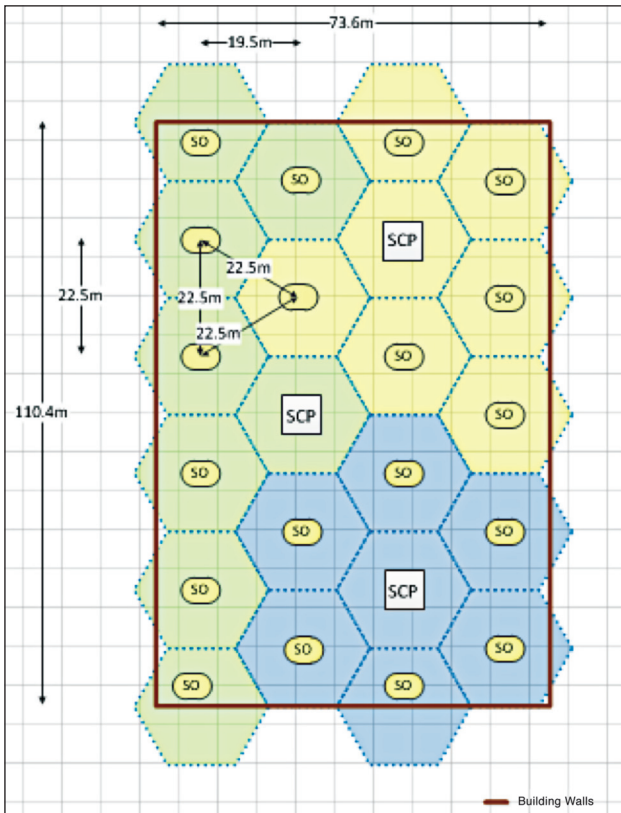

Figure 5 Example of one SCP and seven or eight hexagon coverage areas dedicated to serving WAP uplink connections only
- The 3000m² zone area (excluding unused portions of coverage areas around the perimeter) served by a hexagon deployment pattern of seven or eight 425m² hexagon shaped coverage areas accommodates one zone enclosure supporting WAP uplink connections with very limited support of other building devices (see Figure 5 for example coverage and zone areas).